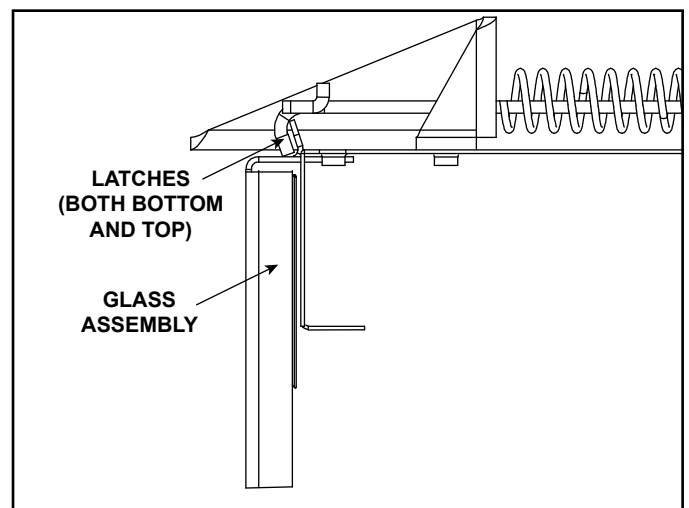

Figure 11.2 Fixed Glass Assembly
- Pull the four glass assembly latches out of the groove on the glass frame. Remove glass assembly from the appliance. See Figure 11.2.